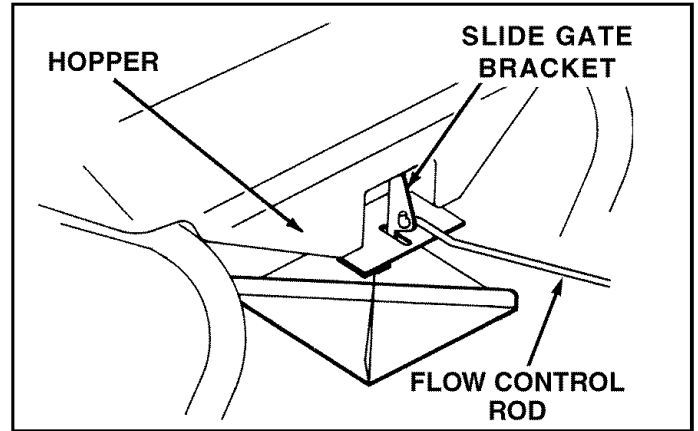

FIGURE 9
- Hook the double bent end of the flow control rod through the hole in the slide gate bracket located near the bottom of the hopper. See figure 9.